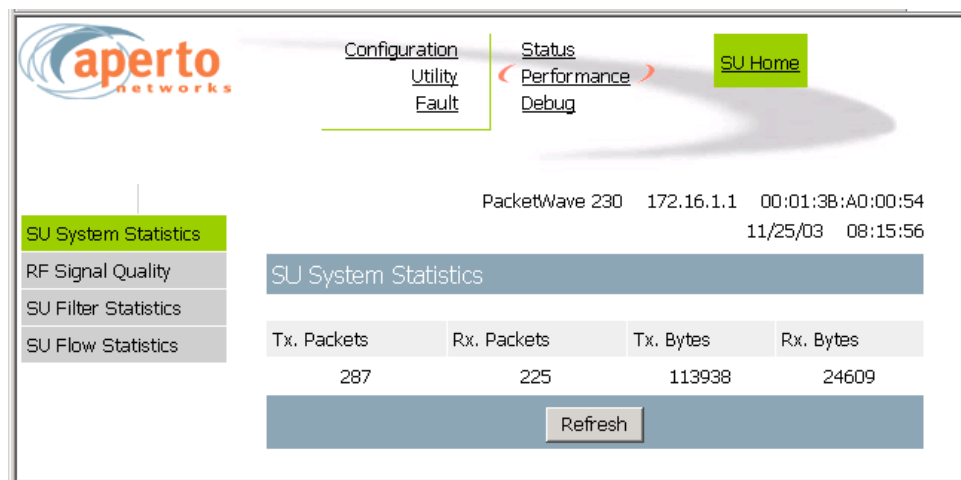

Figure 6-36 System Statistics Page
- The SU System Statistics page (Figure 6-36) includes counts of packets and bytes transmitted and received on the wireless link.